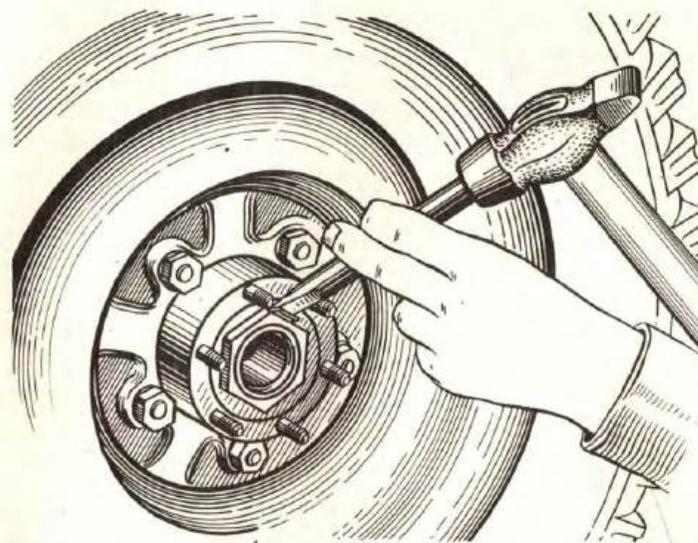

Fig. 41. Locking Wheel Bearing Nuts
7. Back off the nut $1/4$ to $1/3$ turn (1.5 to 2 flats). Fit the lockwasher, tighten the locknut and bend the lockwasher tabs onto the flats of the nut and locknut (Fig.41). If even slight cracks are found on the lockwasher tabs, be sure to use a new lockwasher. Neglect of this point may result in the lockwasher tabs breaking off and the nut working loose or tight. In either case bearing failure is likely to result.